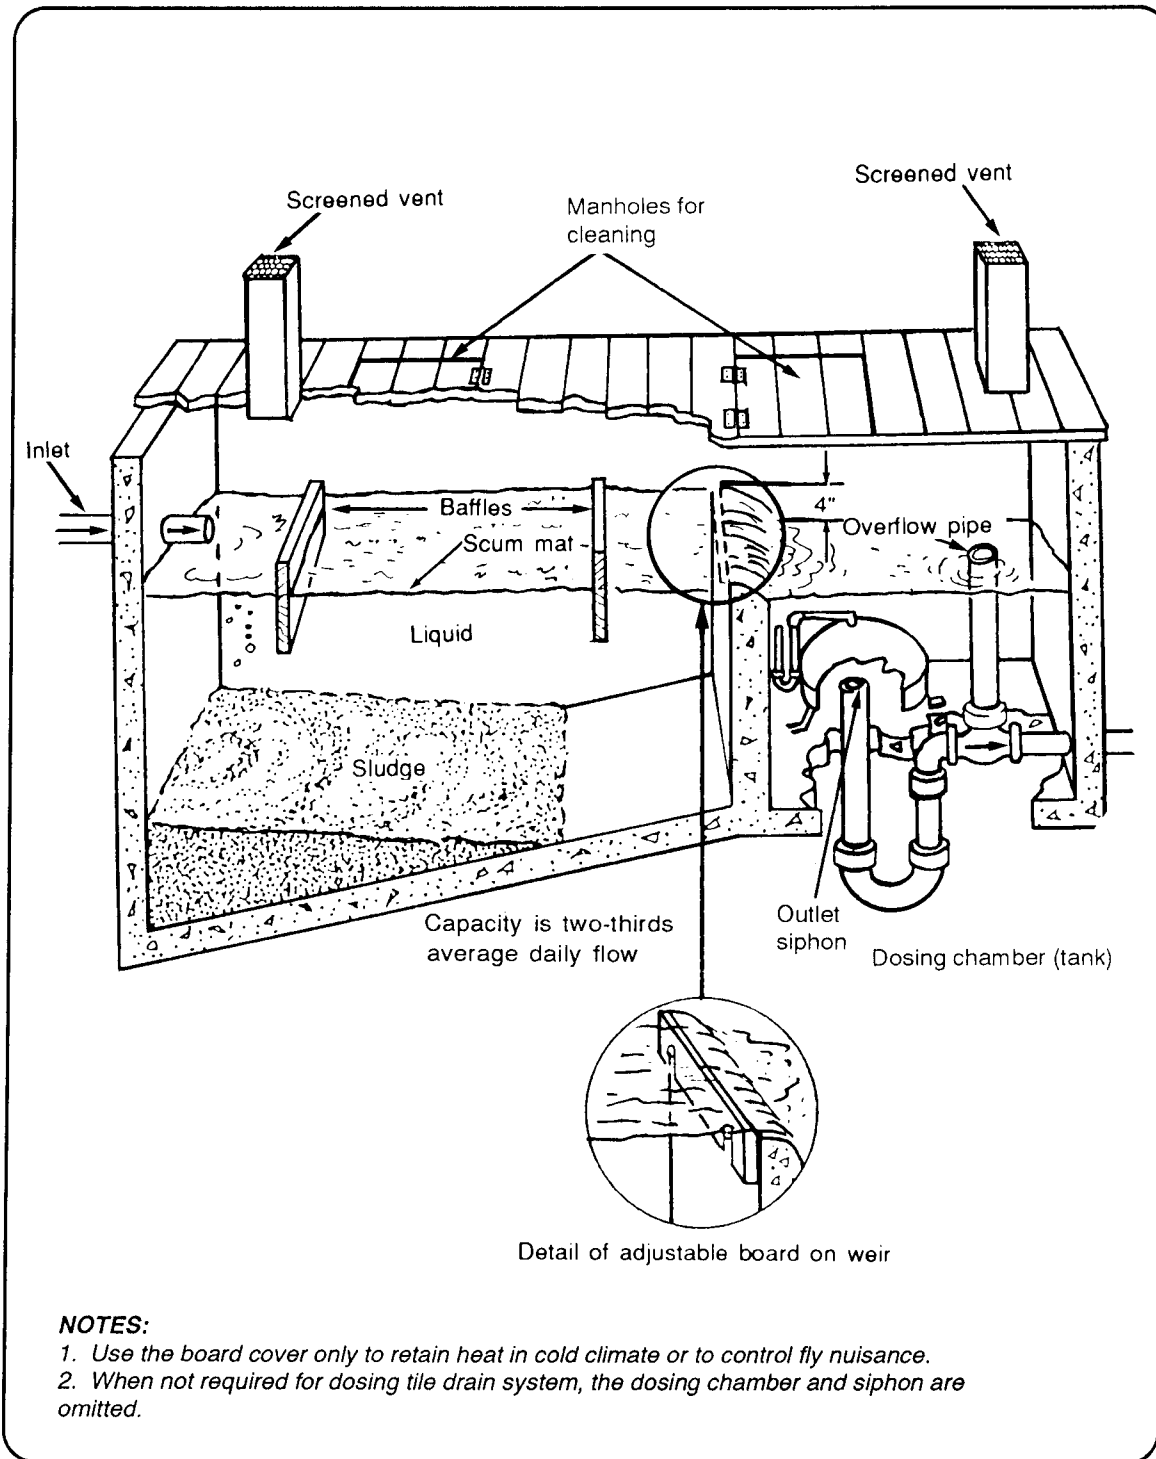

Figure 1-8. Septic tank
b. *Septic Tanks.* The septic tank (Figure 1-8, page 1-20) speeds up decay of raw sewage. It may be concrete, stone, or brick, in box-section form. (Lumber is used when other materials are not available.) It should be watertight. The siphon chamber makes certain that liquid will flow from the chamber; however, the siphon chamber is not absolutely necessary. The baffle boards are usually 2-inch oak planks, which run entirely across the tank. The boards are suspended from hangers and extend several inches below the surface of the sewage. One board should be located 10 inches from the *inlet* pipe and the other about 4 inches from the *outlet* partition. They should have a manhole and cover to give access for cleaning and repair. Septic tanks must be designed to hold for 24 hours and not less than 16 hours, 70 percent of the peak water demand of that facility.